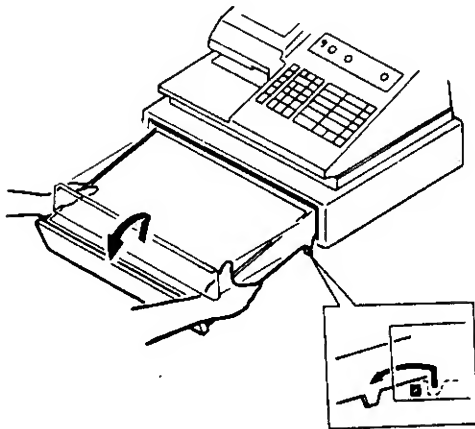
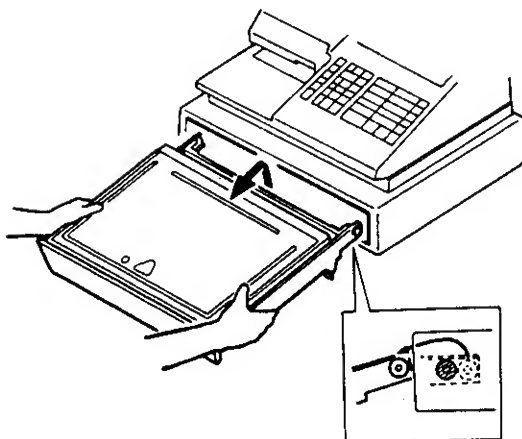

Fig. 2
Fig. 3
1. Pull the drawer out, and when it stops by the stopper, lift the drawer up and pull it again (Fig. 2). When it stops again by the roller fixed in the drawer case, lift it and pull it again (Fig. 3).